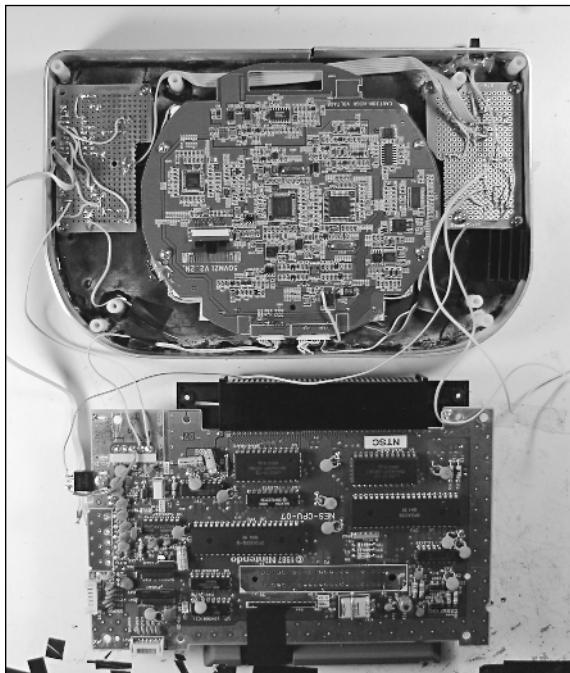

FIGURE 7-28: Proper final wiring positions.
2. Set the NES board on your work surface parts-side up with the cartridge connector near the bottom of the front of the case, as seen in Figure 7-28.